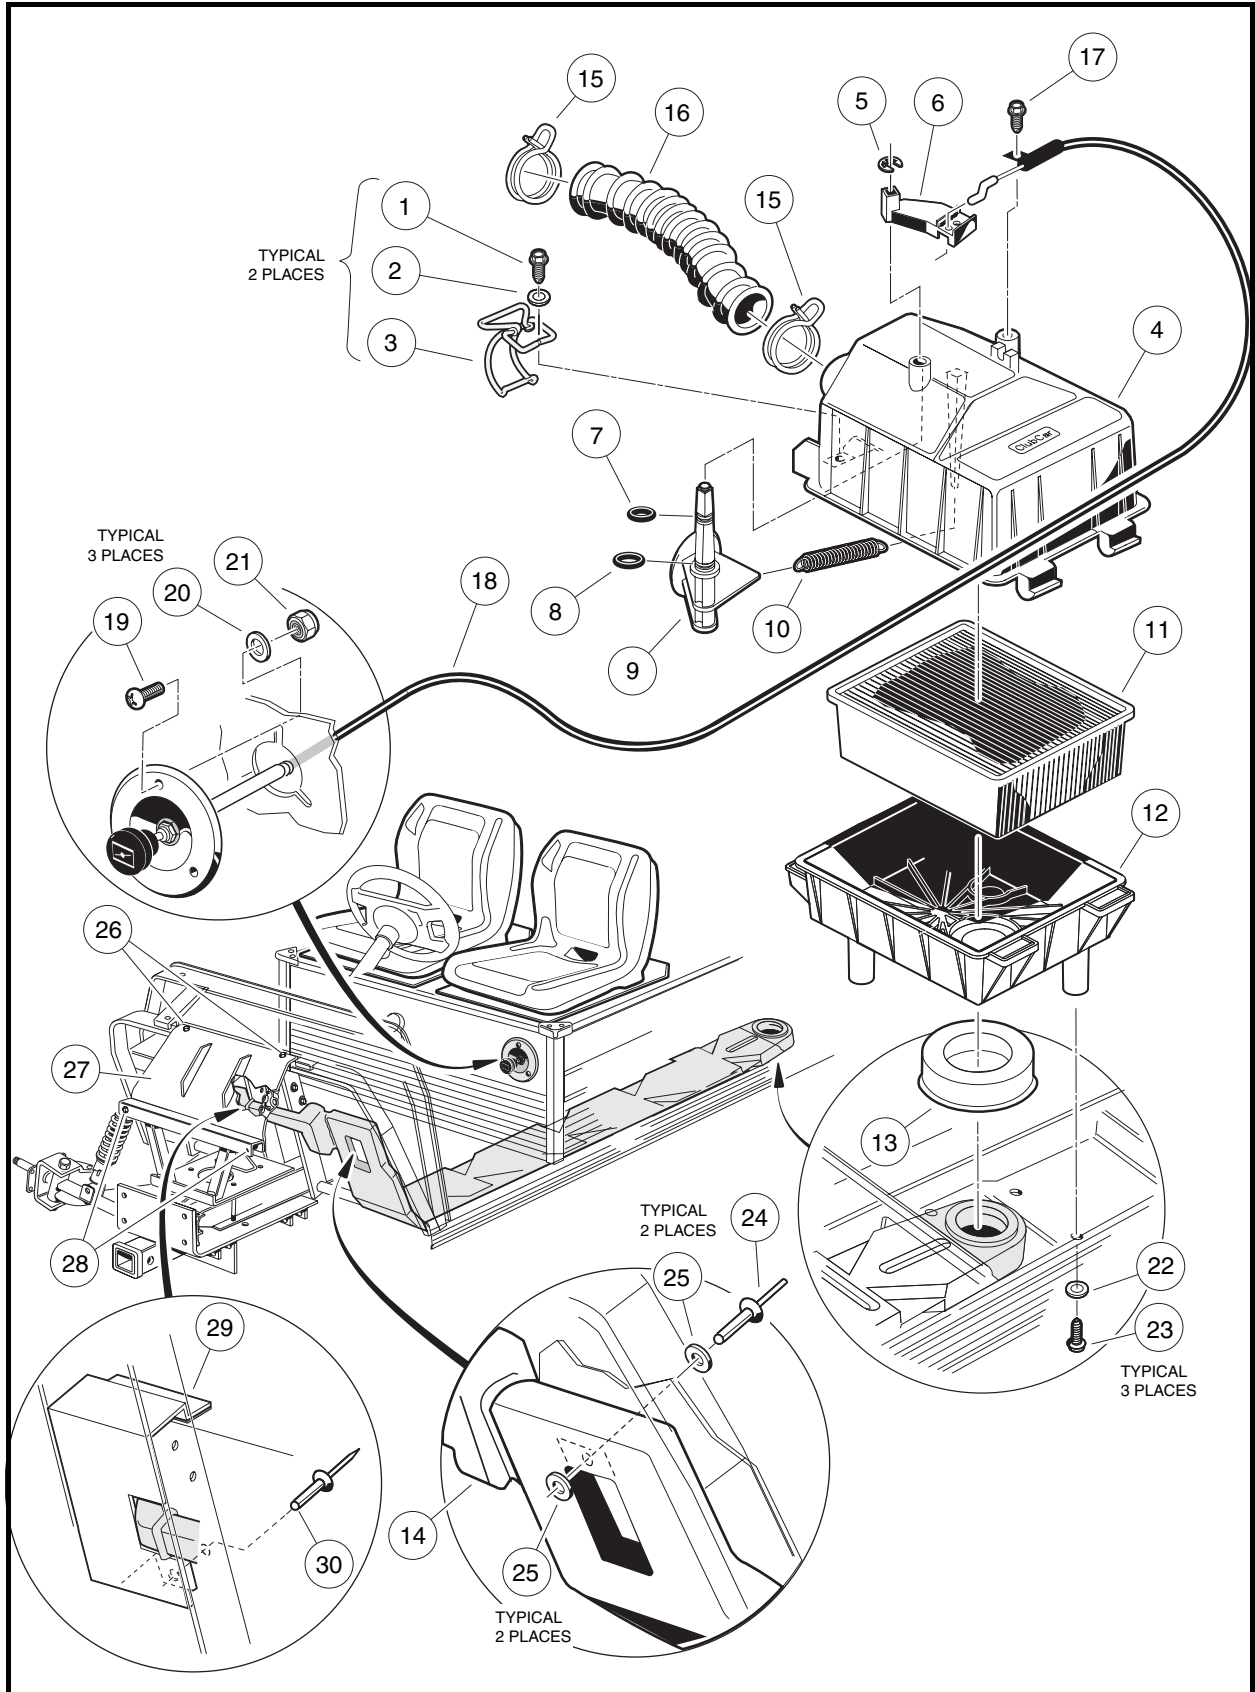
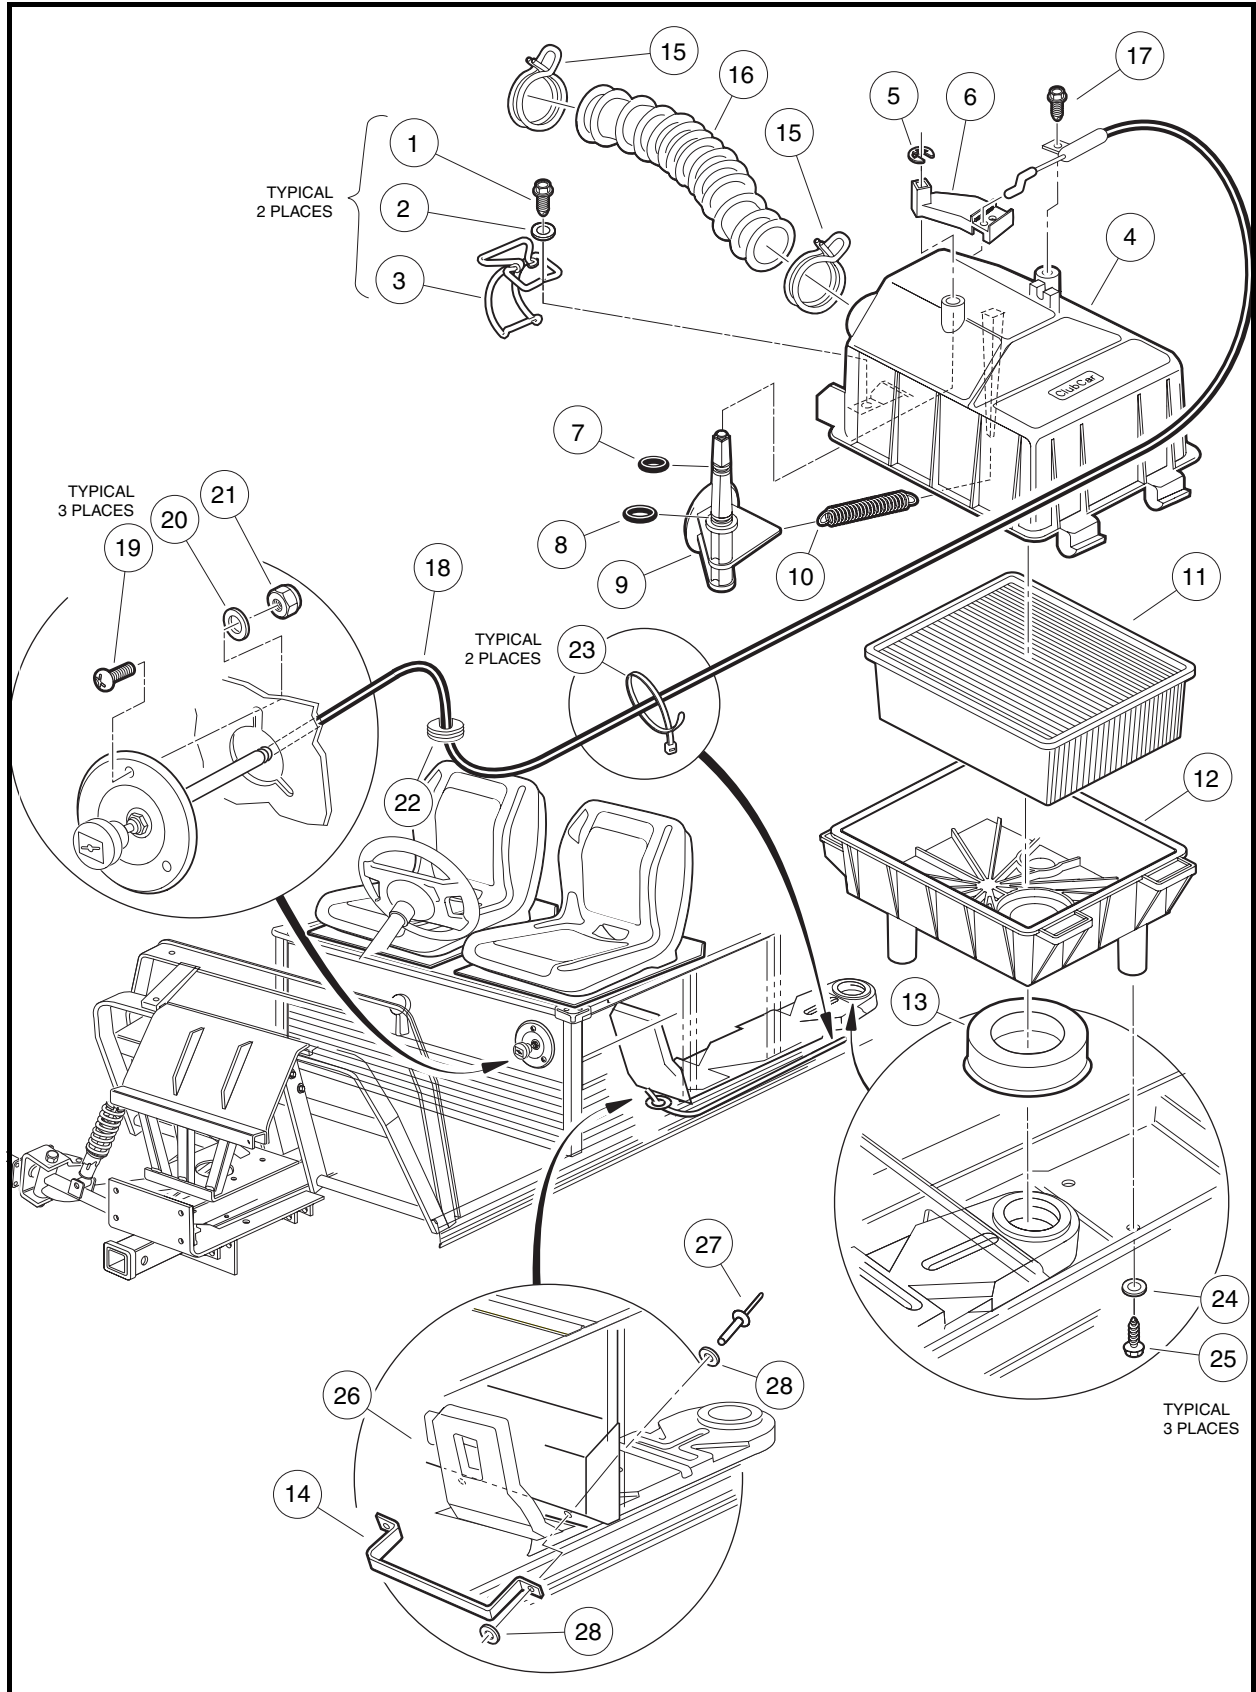

Figure 14-12 Pioneer 1200 Air Intake and Choke Assemblies
Figure 14-13 Pioneer 1200SE Air Intake and Choke Assemblies
2. Secure the front of the duct to the underside of the floorboard with pop rivet (24) and flat washers (25) (**Figure 14-12, Page 14-19**).
- 6.1. Attach each of the front A-arms to the shock tower at the top shock mount and bottom hole locations of the strip plate (27) using bolts (28) and lock nuts. Do not tighten (**Figure 14-12, Page 14-19**).
- 7.2. Attach strap (14) on each end with 3/16-inch x 1/2-inch pop rivets (27) and washers (28) (**Figure 14-13, Page 14-20**).
2. Lift two latches (3) on the side of the air box (**Figure 14-12, Page 14-19 or Figure 14-13, Page 14-20**).
3. Remove the hose clamp (15) from the air hose and remove hose from the air box assembly.
4. Stand on the driver side of vehicle, grasp air hose mounting inlet and open and remove filter element (11).
7. Fasten wire latches (3) and make sure latches securely engage the bottom half of the box. **See following CAUTION.**
8. Install hose (16) and hose clamp (15) and make sure clamp ends are located in the 12:00 o'clock position (**Figure 14-12, Page 14-19 or Figure 14-13, Page 14-20**).